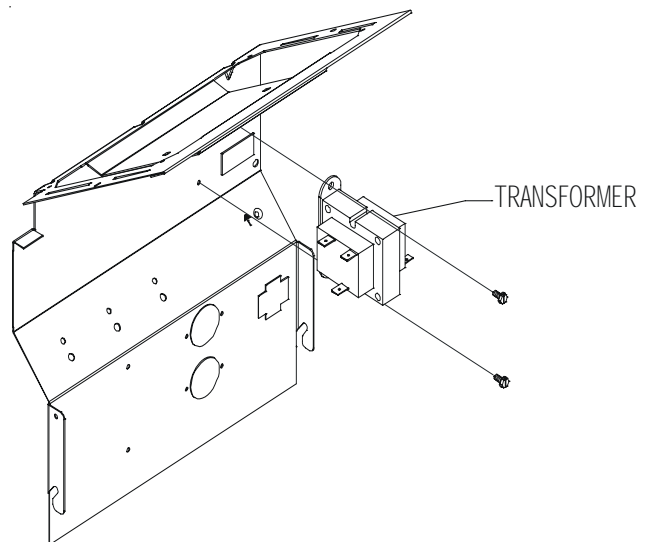

Figure 3
11. Using the two #8 screws that are provided, screw the transformer that was provided with the kit to the control panel in the transformer mounting holes provided in the panel. See Figure 3.